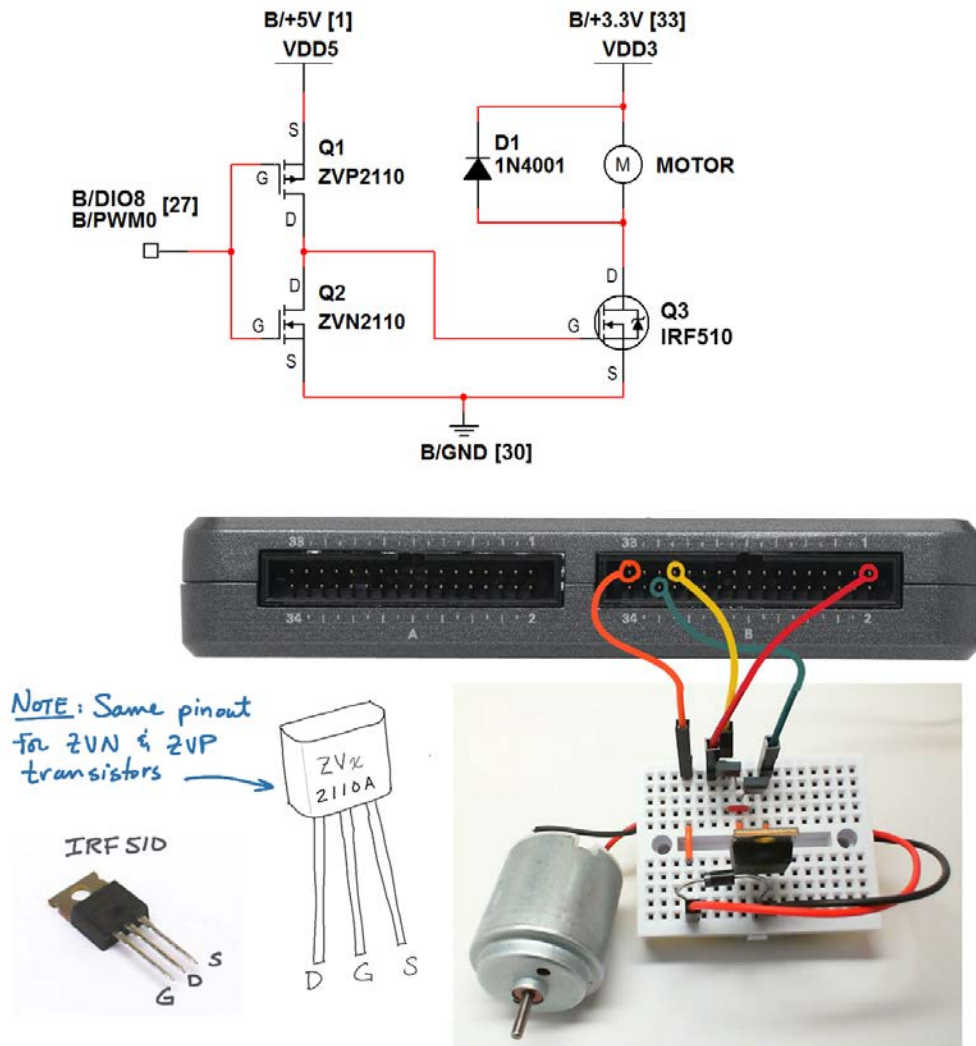

Figure 12.2: Demonstration circuit for DC motor: schematic diagram, recommended breadboard layout, and connection to NI myRIO MXP Connector B.
**Build the interface circuit:** Refer to the schematic diagram and recommended breadboard layout shown in Figure 12.2 on the facing page. The interface circuit requires four connections to NI myRIO MXP Connector B (see Figure A.1 on page 233):